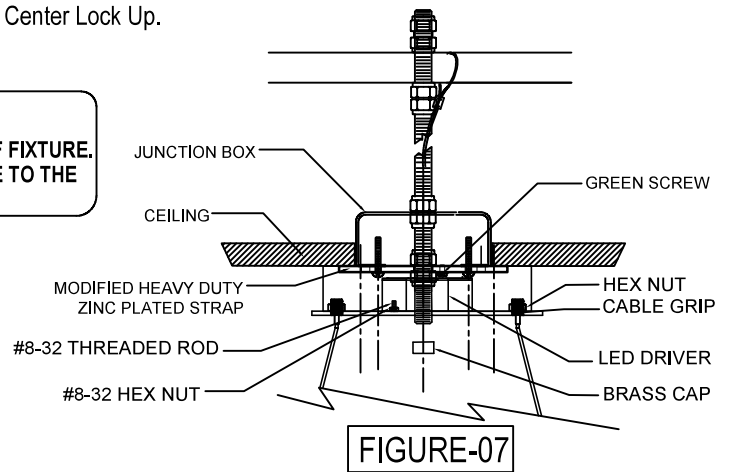

FIGURE-07
14. To level the fixture or change the drop height based on your desire height, push the tab down on the grip lock either pull or push the aircraft cable. Repeat this to all aircraft and coaxial cable until the fixture is level and with the desired height. See FIGURE-07.